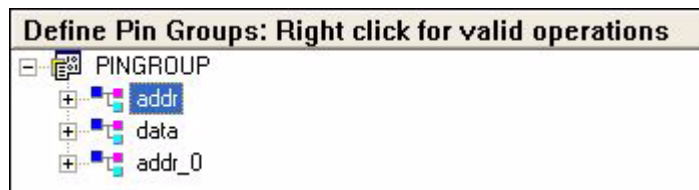

Figure 3-43. Cloning a Pin Group
- 8 Selecting the `Clone` command in the pop-up menu creates and displays an `addr_0` pin group (Figure 3-43).